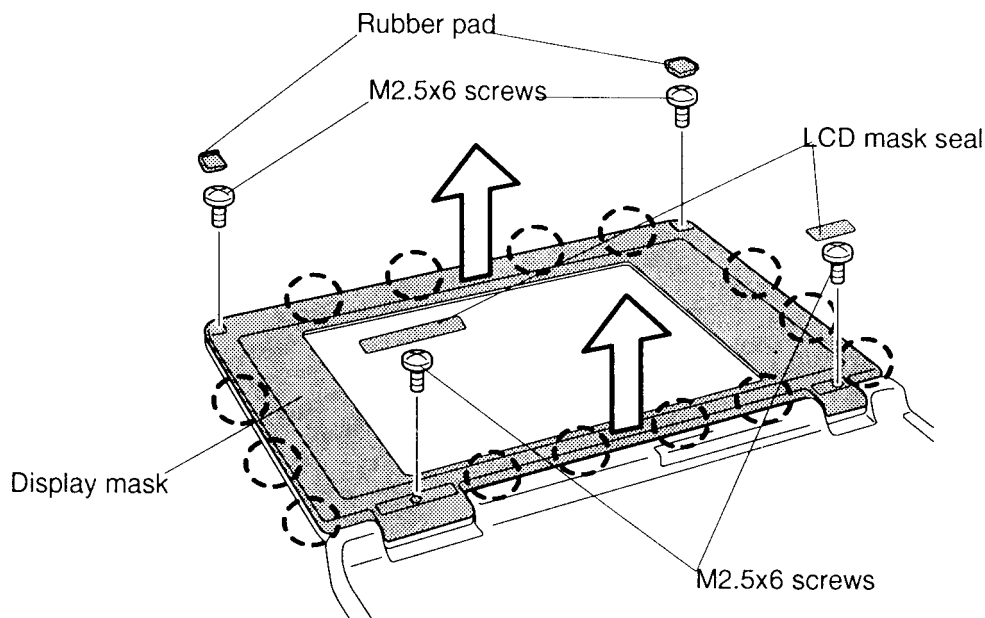

Figure 4-30 Removing the display mask
To remove the T2450CT's display mask, follow the steps below and refer to figure 4-30.
3. Remove **two LCD mask seals** from the display hinges and **two rubber pads** from the top corners of the display to expose screws securing the display mask (figure 4-30).
4. Remove **two M2.5x6 screws** at the bottom corners of the display mask, and **two M2.5x6 screws** at the top two corners (figure 4-30).
5. Carefully insert your fingers between the mask and the LCD panel and pry open the latches. Start with the **four latches** across the top of the display mask (figure 4-30).
6. Continue unlatching the mask along the **sides (three latches on each side)**, **four latches** at the bottom, and **four latches** at the display supports (figure 4-30).
To install the T2450CT's display mask, follow the steps below and refer to figure 4-30.
1. Set the **display mask** in place and press firmly to secure the latches. Start at the bottom four latches and work your way around the three latches on each side and, finally, secure the four latches at the top (figure 4-30).
2. Secure **four M2.5x6 screws**, one at each corner of the display cover (figure 4-30).
3. Replace **two rubber pads** and **two LCD mask seals** covering screws at the top two corners and at the hinges (figure 4-30).